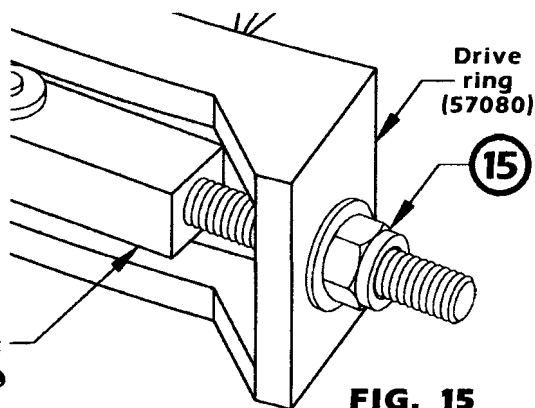

FIG. 14
1. Reattach the actuator motor head cover by tightening down on the three Phillips-head screws. Attach the plastic motor cover to the motor mount using three #10 x $\frac{3}{4}$ " self-tapping screws and three #10 flatwashers. Don't overtighten. (See Fig. 14)